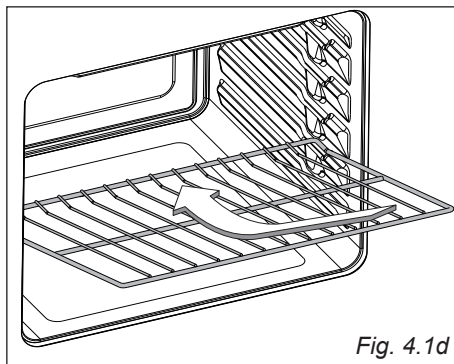

Fig. 4.1d
- The oven shelf is provided with a security block to prevent accidental extraction. It must be inserted operating as per figure 4.1d.